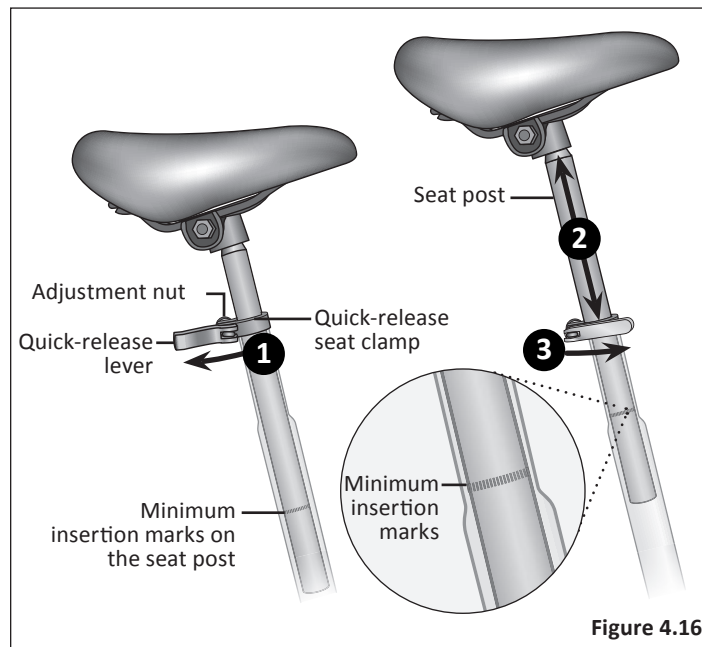

Figure 4.16
- 1 Unlock the quick-release lever. **Figure 4.16**